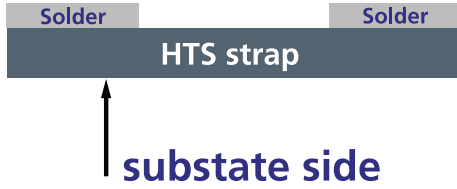

Figure 8. Tinned strap wire
- d. Repeat above steps for the strap wire, applying a thin layer of solder over the ends of the HTS strap that will form the two joints, as shown below in Figure 8.